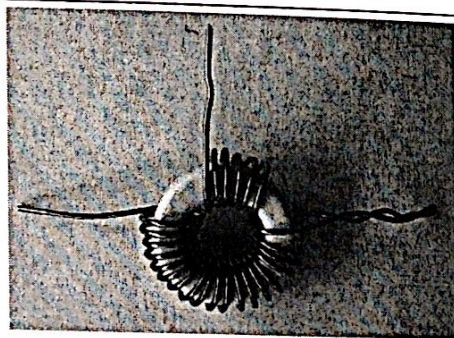

Figure 4: A photo of properly wound tapped inductor example.
1. The tuned RF amplifier to be mounted is the transmitter (TX) amplifier operating at 27 MHz. This circuit is given in Fig. 5. L30 is a tapped inductance. The number of turns of L2 is determined in the preliminary work. It is supposed to transform the impedance of 10Ω to the optimum load resistance of the transistor. Cut 40 cm of 0.35 mm enameled wire to wind L1 and L2 on the T37-7 toroid. T37-7 is a core with an outer diameter of 0.37 inches or 9.4 mm (see p. 402). The windings should be single-layer without scrambles. Randomly wound coils do not perform well. The increased capacitance between the windings has a detrimental effect on the inductance performance. Count the turns of L1 carefully. It is very easy to end up with one turn more. The number of turns is the number of times the wire *passes through the toroid*. When the windings of L1 are finished, bend and twist the wire for the tap of 1 cm long. Continue winding in the same direction to complete L2. Windings should be similar to the example tapped inductor shown in the photo of Fig. 4. Cut the extra wires at both ends. Scrape the enamel off with a knife at